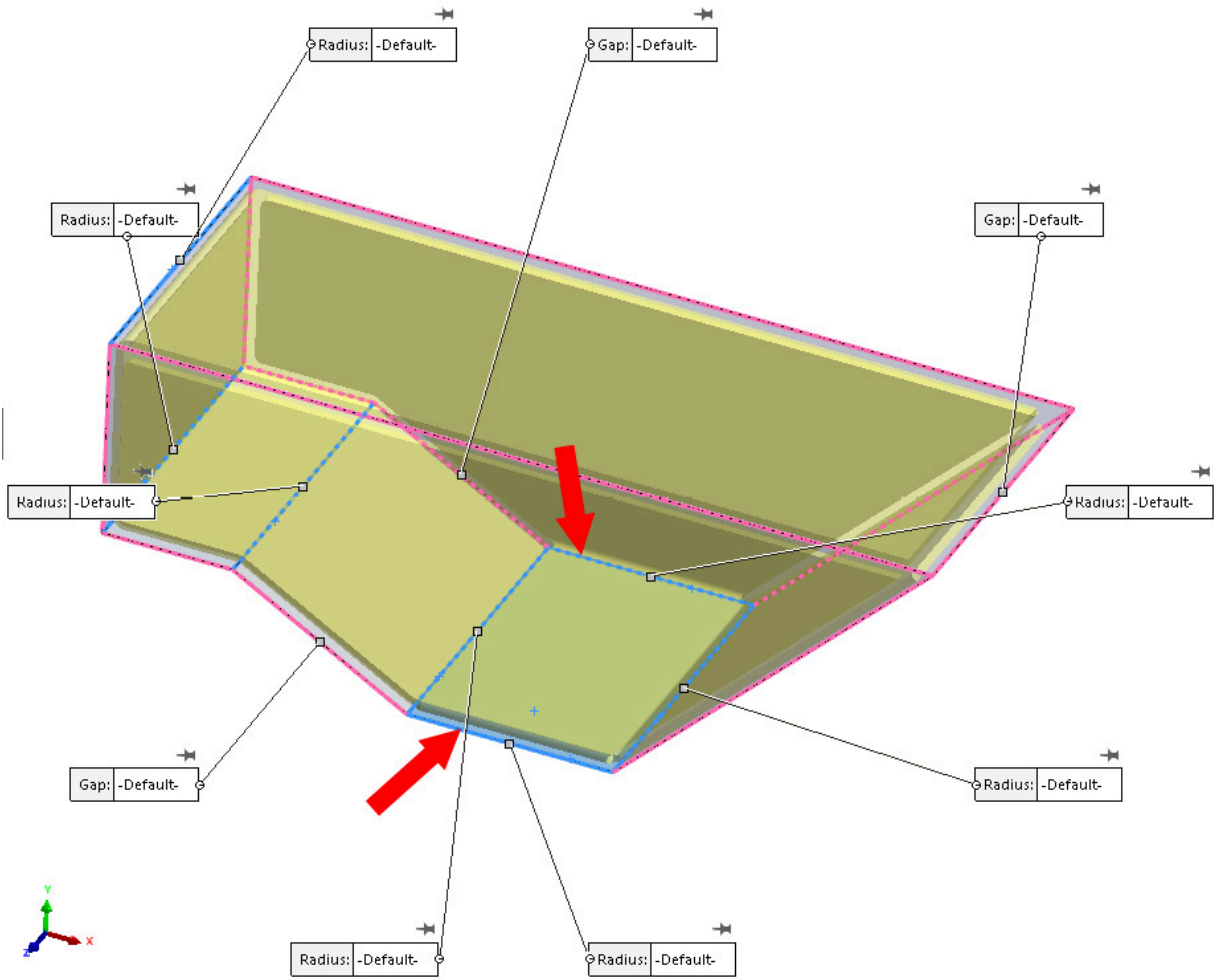

Figure 12.12: Select the final two Bend Edges
4. Select the two further edges shown in *Figure 12.12* and note that **Rip Edges** are automatically applied all the way around the large faces of the shape.